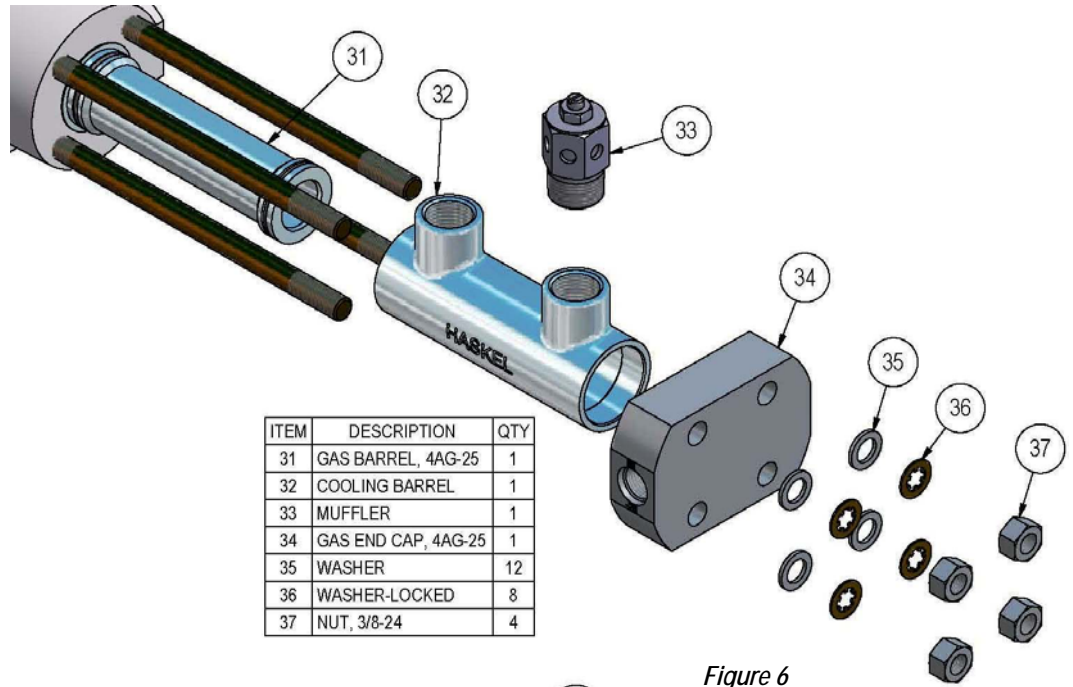
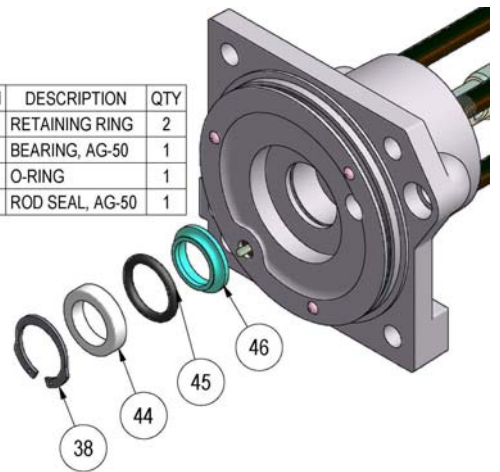

Figure 6
Figure 8
2.2.1 Gas Barrel (Refer to Figure 6 & 7)
- A. Unscrew the four nuts (37) & remove end cap (34).
- B. Gently remove cooling jacket (32) & gas barrel (31).
- C. To inspect rod bearing, remove retaining ring (38), then slide out the bearing (39) and the glider ring (40) along with the o-ring (41).
- E. There is also another bearing in the gas vent bearing in the gas vent cap (44). Refers to Figure 8 for reference.